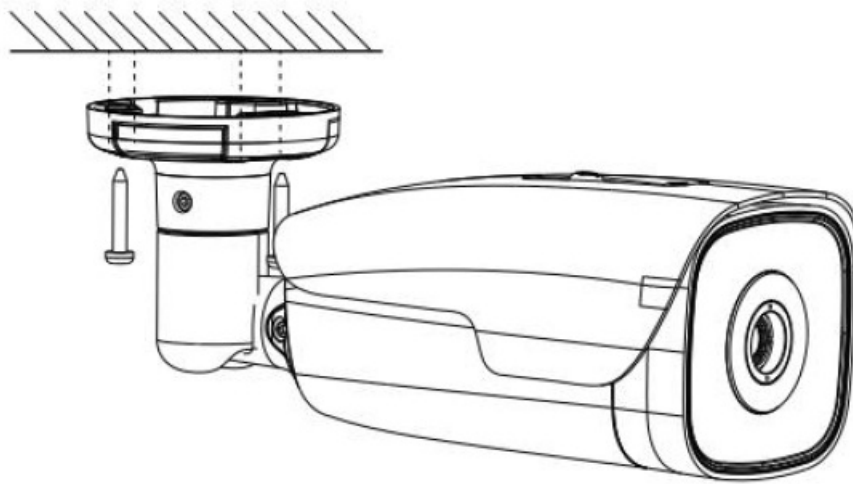

Figure 2.6(b) Ceiling Mounting
- The wall mount is shown in Figure 2.5, and the ceiling mount is shown in Figure 2.6.